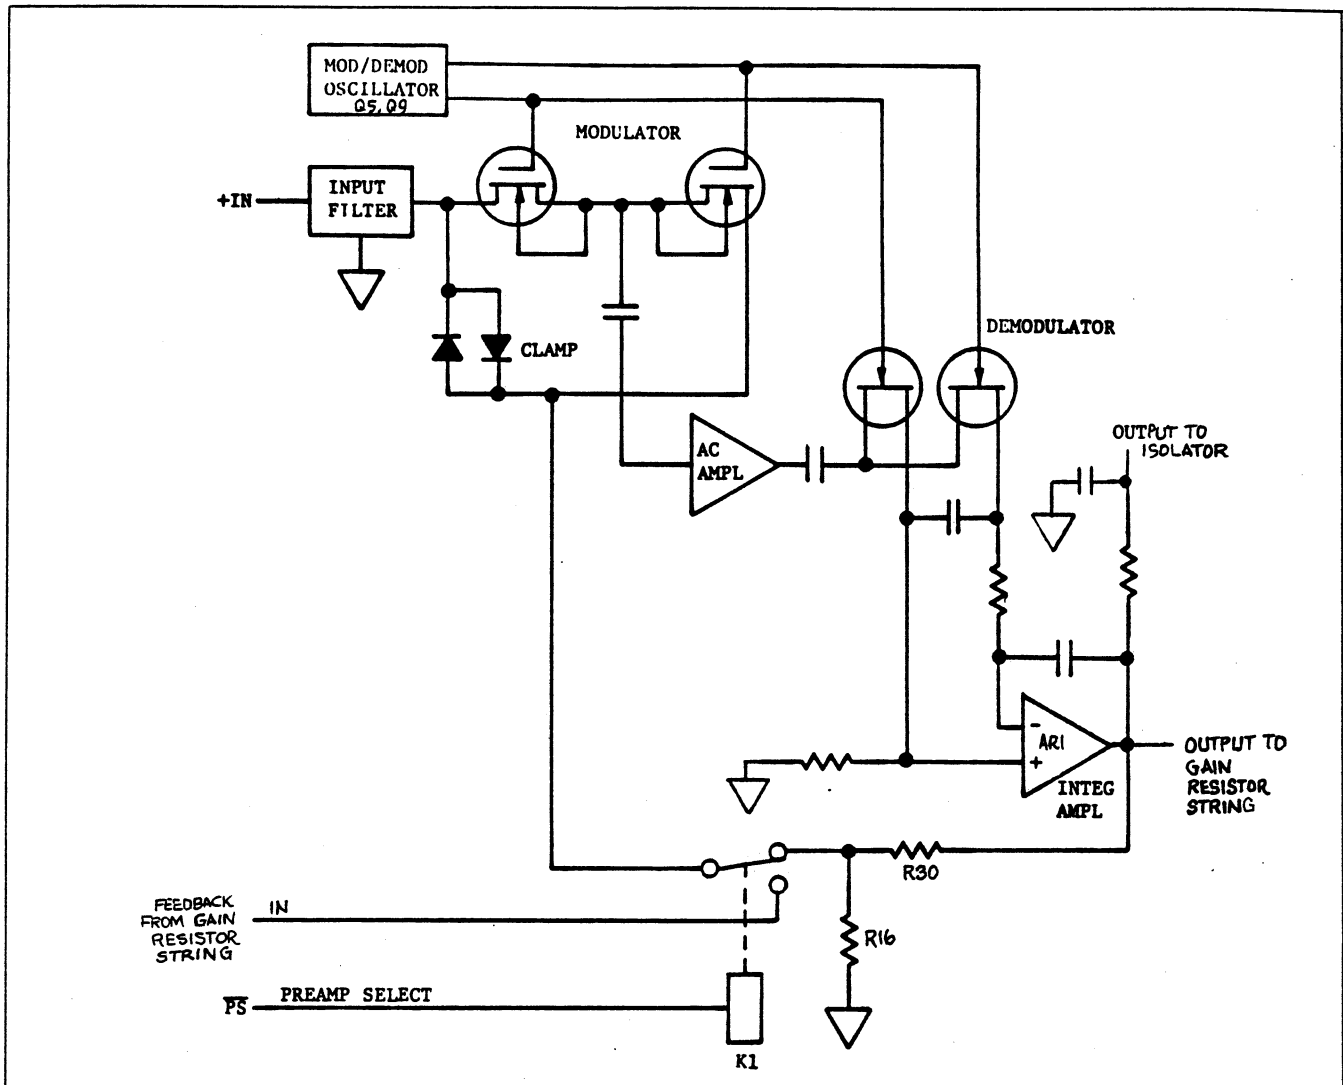

Figure 5.19 - Preamplifier
5.3.5.7.1 The Preamplifier (Figure 5.19) provides a signal gain of 725 in the 10 mV and 1Ω ranges. The circuitry consists of a modulator, demodulator, oscillator, integrating amplifier and AC amplifier.